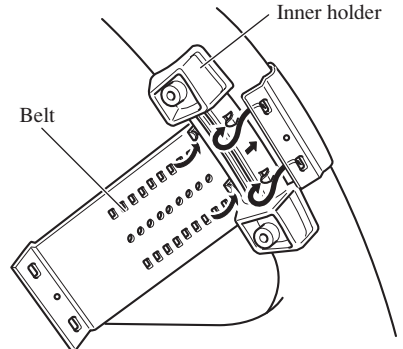

Fig. 16
1. Secure inner holder to the inner circumference of the steering wheel with belt. (Fig. 16)